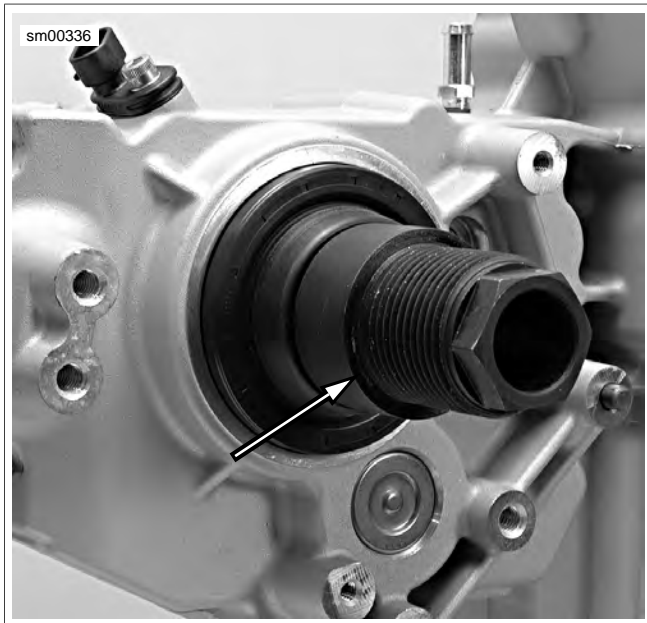

Figure 5-79. Install Adapter (Typical)
4. See Figure 5-79. Thread ADAPTER (Part No. HD-47856-4) onto end of main drive gear several turns. Do NOT tighten. Doing so could make it difficult to remove adapter after seal has been installed.